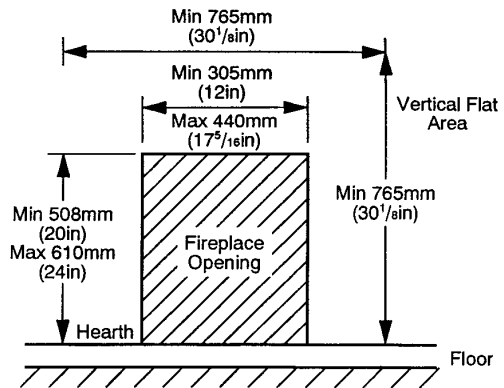

Fig. 2 Fireplace or Surround
- (a) **Fireplace or surround:** The fireplace or surround must be of non-combustible material and have a flat vertical area and an opening size to the dimension shown (Fig. 2).